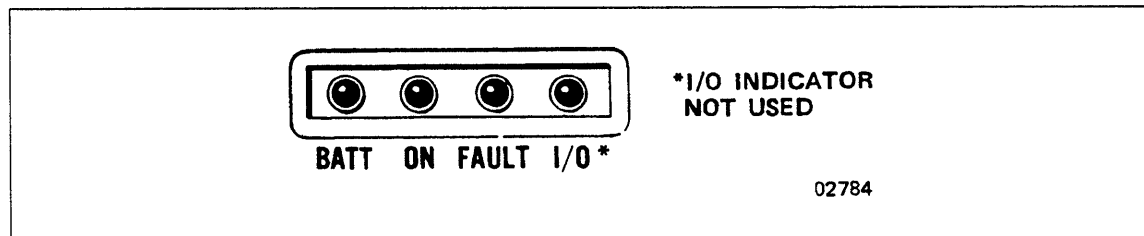

Figure 3-18. Cabinet BATT Indicator
8. Check that BATT indicator, on top front of DI cabinet, is off (figure 3-18). If it is on, check for the following: